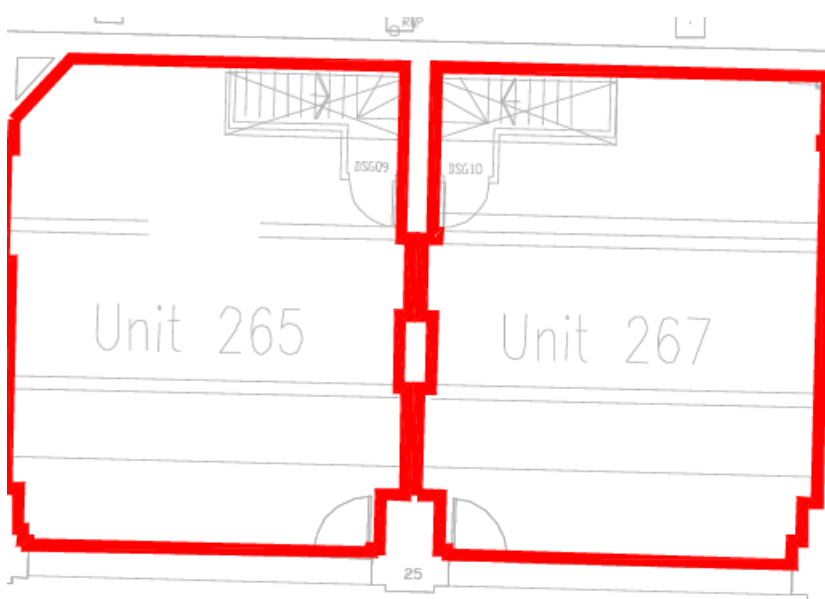

Figure 2. Snapshot from Great Northern Warehouse, Ground Floor Leisure Box Development
- 2.3 The original stairs within unit No.265 have since been removed (see figures 2 and 3 below) and infilled with timber joist and boarded floor. A modern stair lies between units 263 and 265 forming a protected means of escape route in case of fire (see figure 1).